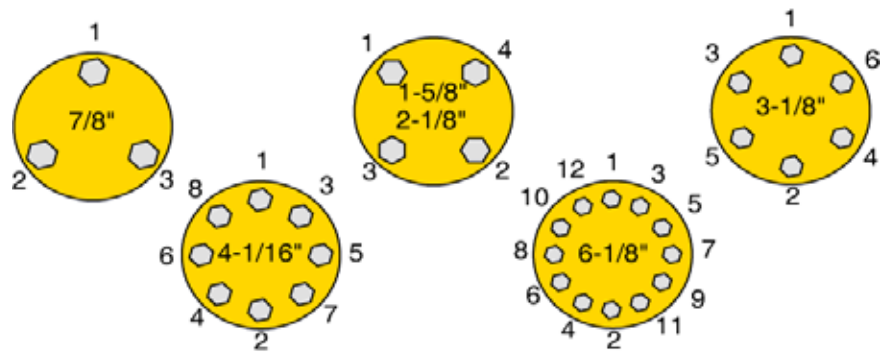

Figure 3. Flange Bolt Tightening Sequences
- i. First snug the flange bolts in the sequence shown in Figure 3 on page 5, then tighten them to the torque specification shown in Table 1 on page 5.